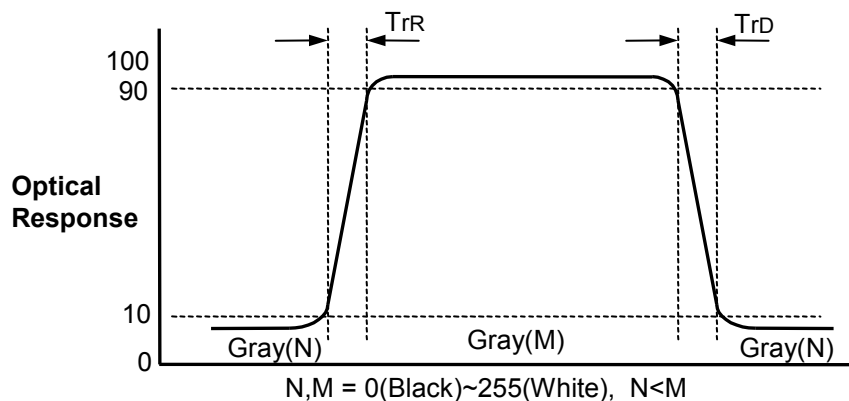

FIG. 3 Response Time
4. Response time is defined as the required time for the transition from G(N) to G(M) (Rise Time, TrR) and from G(M) to G(N) (Decay Time, TrD). For additional information see the FIG. 3. (N<M)